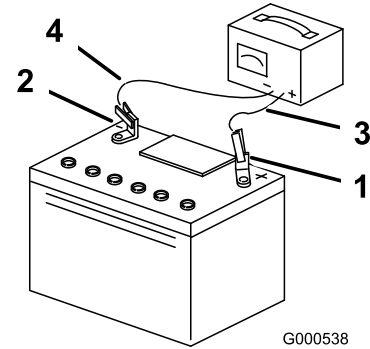

Figure 44
5. When the battery is fully charged, unplug the charger from the electrical outlet, and disconnect the charger leads from the battery posts (Figure 44).